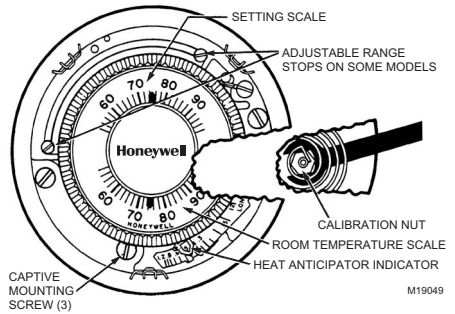

Fig. 6. Recalibrating T87F Thermostat.
4. Slip the 104994 Calibration Wrench (ordered separately) onto the hex under the bimetal coil and, holding the dial firmly, turn the hex clockwise until the mercury breaks contact. See Fig. 6.